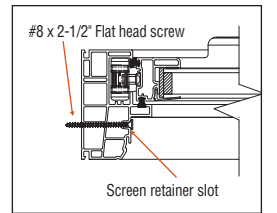

fig. 9
- d. Fasten the bottom jamb by removing the screen and inserting fasteners using #8 x 2-1/2" flat head screws through the screen retainer slot on each side, replace screen. (**fig. 9**)